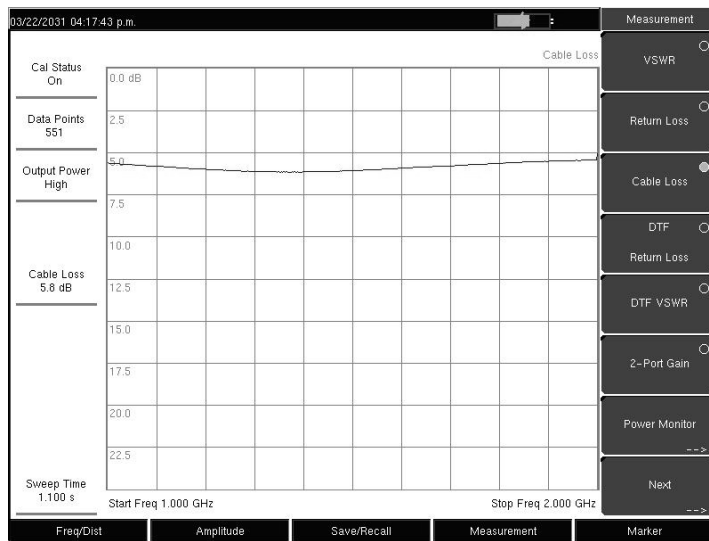

Figure 3-8. Cable Loss of Transmission Line
2. Ensure that the instrument is in Vector Network Analyzer mode and press the **Shift** key and the **System** (8) key, then press the Application Options soft key.
7. In Figure 3-8, the Measurement soft key menu shows Cable Loss selected (small red light simulated in soft key face). Also, the instrument settings summary displays “Cable Loss 5.8 dB” to the left of the measurement display area.
9. Press the **Shift** key, then the **Calibrate** (2) key.